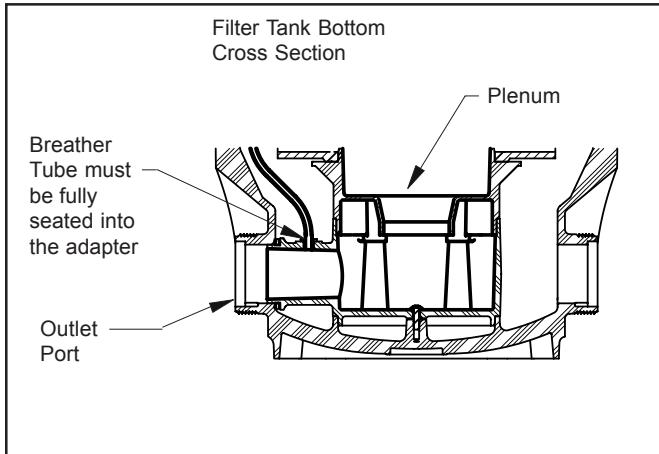

Figure 2. Removing the Outlet Port
- 1.7 Remove the three (3) screws holding the Breather Tube Support. Slide the support off of the tank rib. The bottom of the Breather Tube will stay in the Plenum (see Fig. 2).